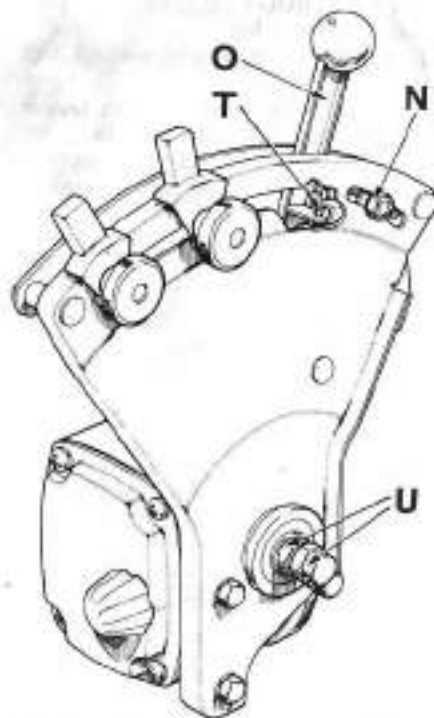

Fig. 282—Hydraulic system control lever adjusting points; refer to text for procedure.
**263. CONTROL LEVER ADJUSTMENT.** The control lever should move without binding, yet have sufficient tension to hold a set position without moving due to vibration. To adjust control lever tension, loosen the pivot nuts (U-Fig. 282), tighten inner nut to